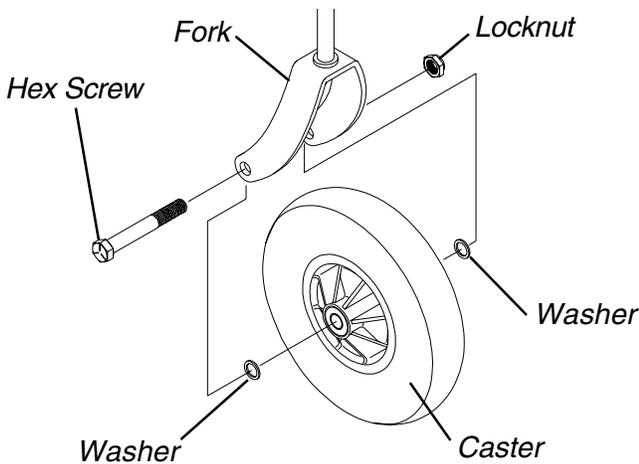

FIGURE 4 - REPLACING CASTERS
**REPLACING CASTERS (FIGURE 4)**